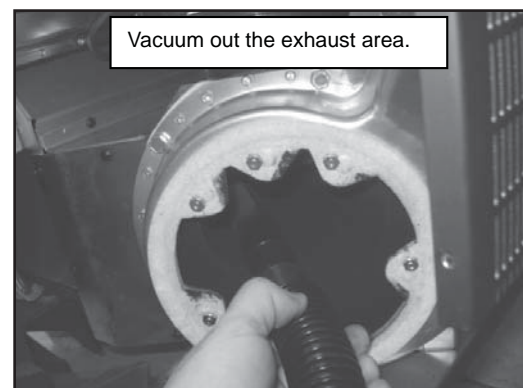

Figure 25.5
4. Vacuum out the exhaust area. **Figure 25.5.**